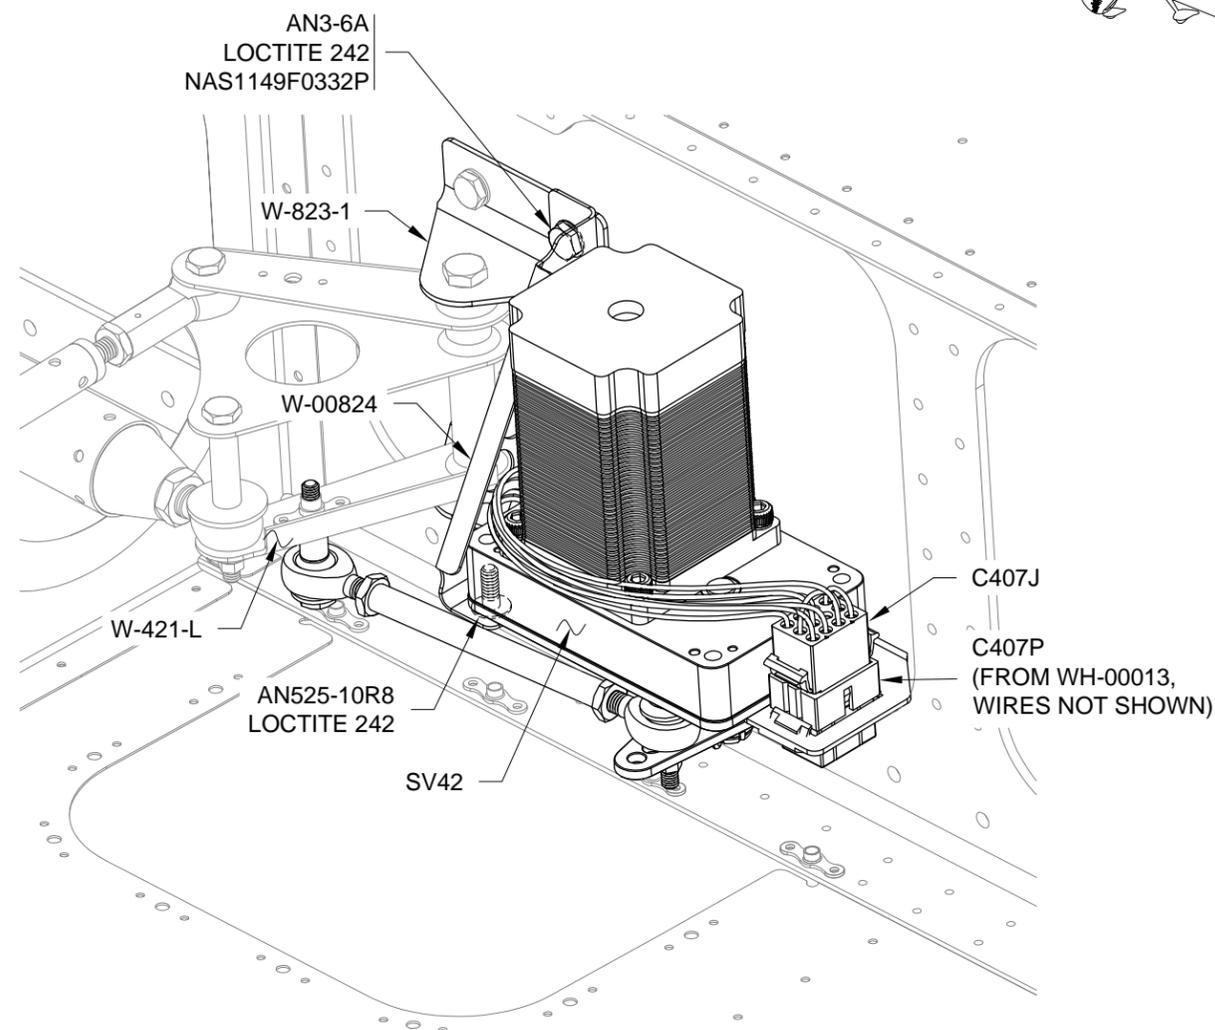

FIGURE 2: CONNECT ROLL SERVO
Step 9: Attach the roll servo pushrod assembly to the W-421-L Aileron Bellcrank as shown in Figure 2 and Figure 3.